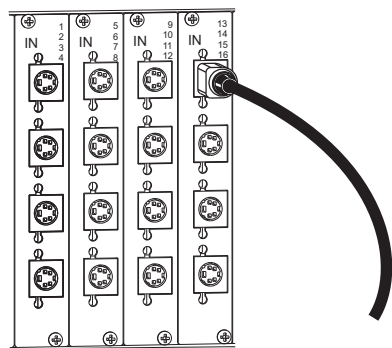

FIG. 31 Fasten S-Video cable onto connector
1. Fasten the cables onto the input and output S-Video connectors (FIG. 31).